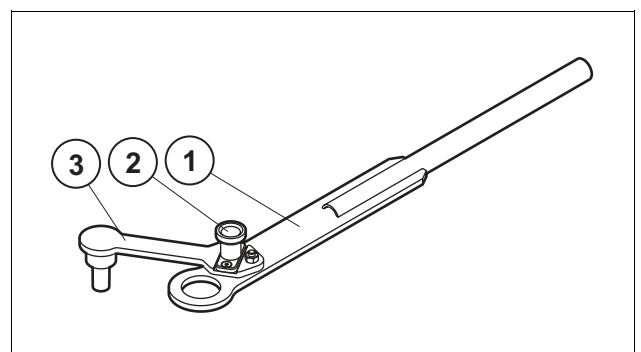

Fig. 20 Tool
3. Connect the Tool (*See Fig. 20.*) to the Tension Device and to the Bar Holder as follows.
- 1 Connect the ring on the Lever to Pin (1).
- 2 Connect the Arm to the Sleeve (3).